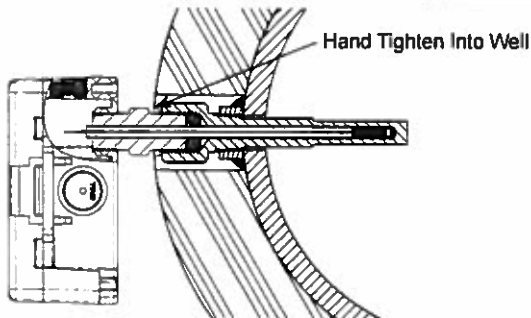

Fig 12: Typical Sensor Inserted
**Application:** Figure 12 shows a typical thermowell and immersion probe installed into a pipe. In a properly insulated pipe with liquid or steam, the temperature is essentially the same across the entire cross section of the pipe. Usually thermowells are sized to extend to the center of the pipe; however, shorter thermowells will give proper temperature readings if properly insulated. The shorter thermowells are used in pipes with high flow velocities. See Application notes "Thermowells Explained" on our web site BAPIHVAC.com.